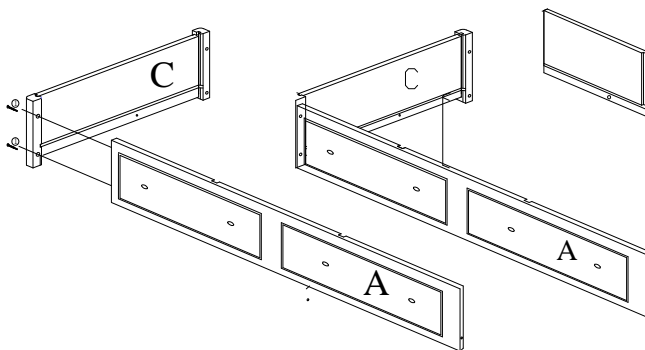

Figure 1
2. See Figure 1 & 2, connect four panels together. **Front Panel (A), Side Panel (C), Back Panel (B)** by using the **long bolts (1)**.